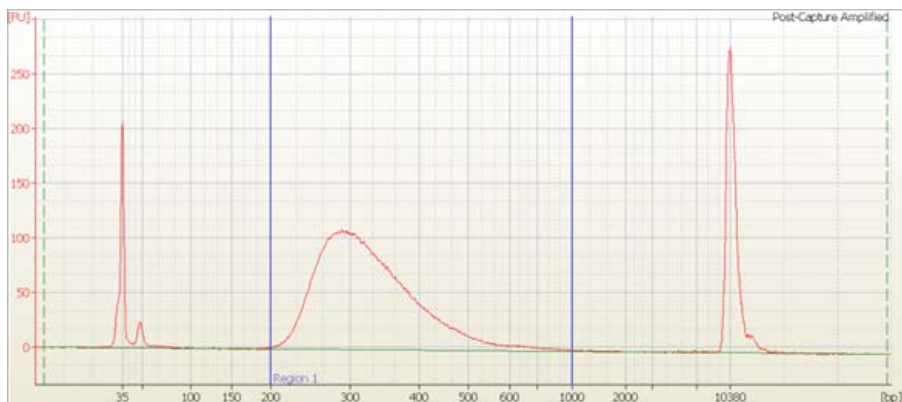

Figure 6 Analysis of amplified captured DNA using the High Sensitivity DNA Assay.
- 7 Verify the results. Check that the electropherogram shows a distribution with a fragment size peak between approximately 275 to 300 bp. A sample electropherogram is shown in Figure 6.